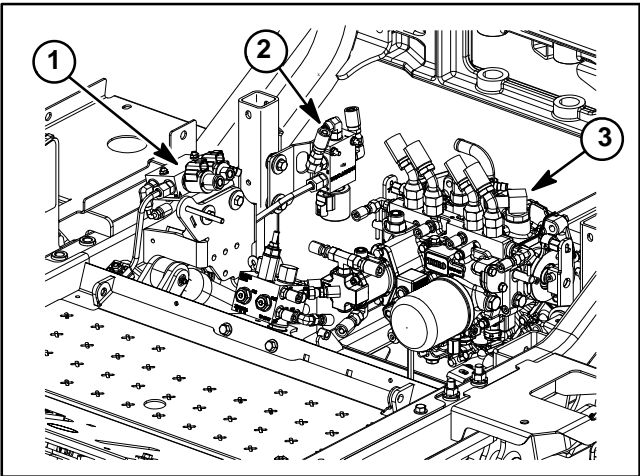

Figure 60
2. Disconnect harness electrical connector from hydraulic solenoid valve coil that is to be tested (Fig. 60).